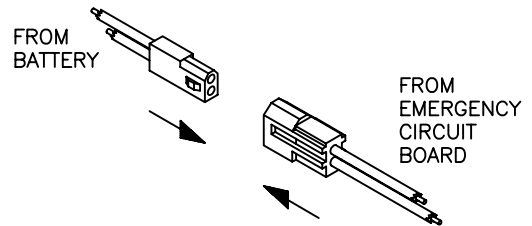

FIG. 3
- 9) Connect the battery as shown in FIG. 3.